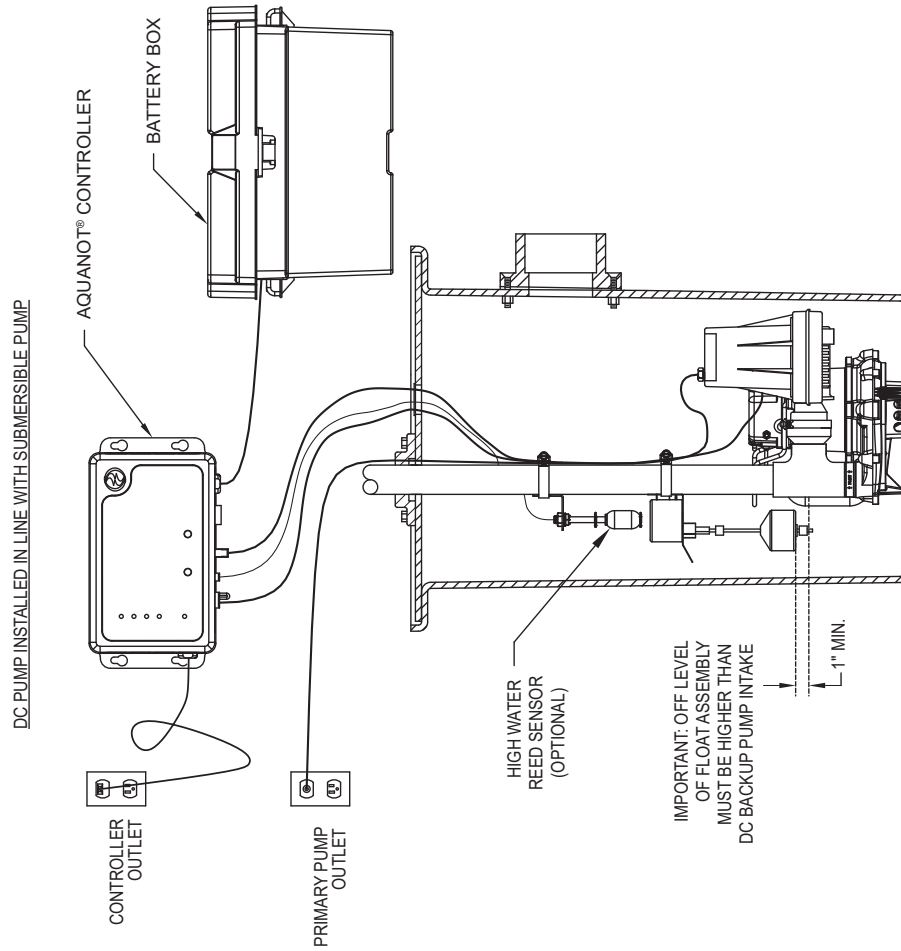

FIGURE 1
2. The preferred method of installation for backup pumps is shown in Figure 1. The installation kit includes one threaded check valve to be used in the discharge. An additional check valve is incorporated in the discharge of the backup pump.
4. Make certain the float switch clamp is tight on the pipe to avoid slippage. Ensure that the "off" level of the float is 1" (25 mm) min. above the discharge tee of the DC backup pump (see Figure 1). Position pumps in the sump and move float up and down, making sure of free movement without interference from any obstructions inside the sump or lid. Very shallow sumps may require some adjustment to avoid overflowing or backing up of water into the sump inlet. The float switch can be moved on the discharge pipe or the rubber stops can be adjusted as necessary.